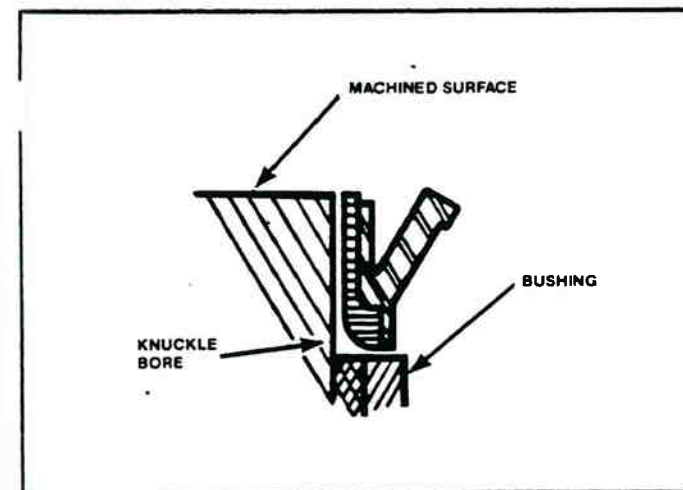

Figure 1-12. Grease Seal Installed in Knuckle With "Easy Steer" Bushings.
2. Using a suitable sleeve and a bronze drift, tap the seal into the knuckle bore until it is flush with the machined surface as shown in figure 1-12.